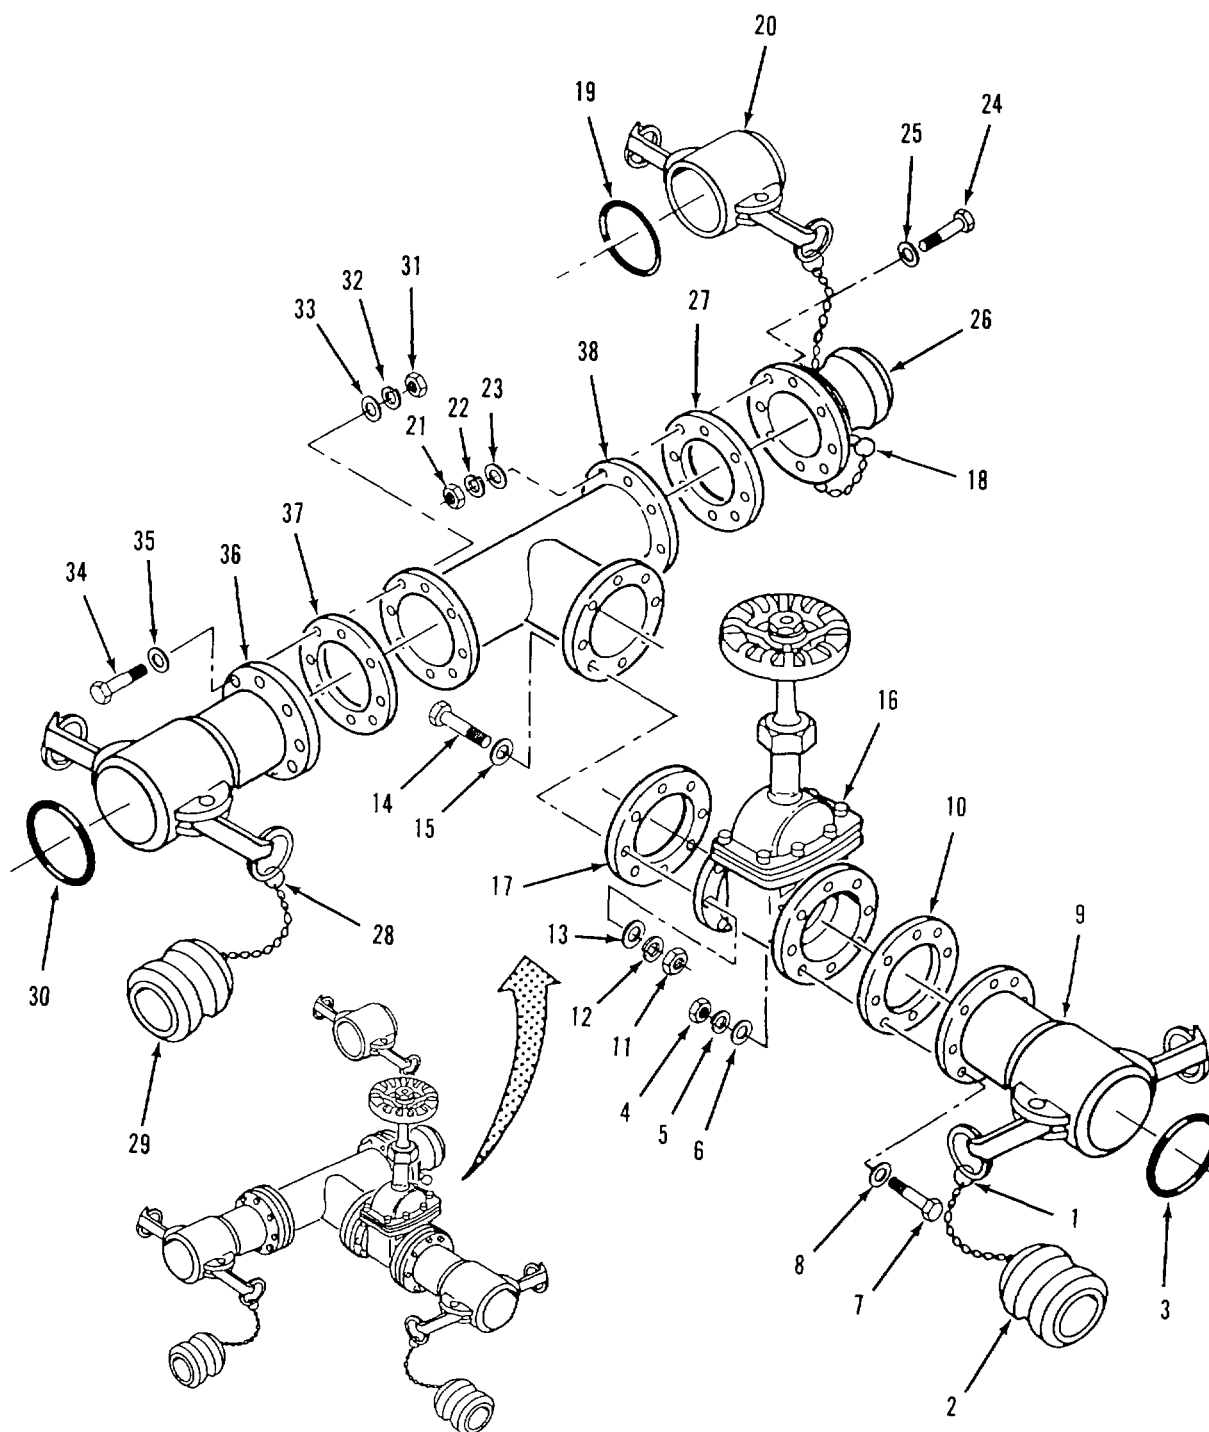

Figure 4-35. Tee and Gate Valve Assembly (9114-Y5) Repair.
- a. Disassembly. Refer to figure 4-35.
- (1) Disconnect ring (1) from female coupling (9) and remove plug (2).
- (1) Refer to para. 4-31 to repair gate valve.
- (2) Replace defective components. Do not reuse scaling components.
e. Assembly. Refer to figure 4-35.
- (1) Position gasket (37) and female coupling (36) on tee (38).
- (2) Install eight flat washers (35), screws (34), flat washers (33) lockwashers (32) and nuts (31).